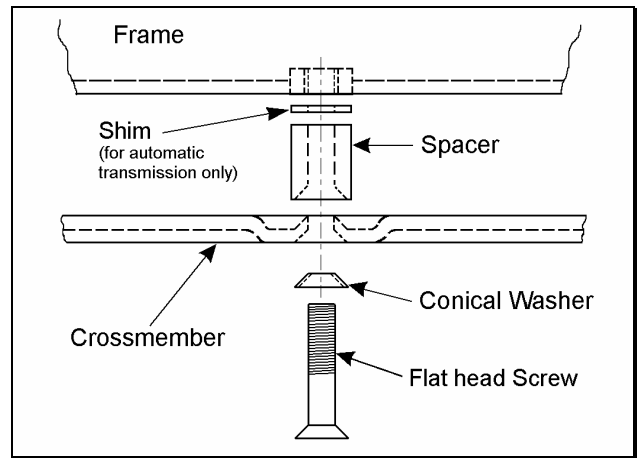

Figure 12a
4. ☐ Place 3 spacers from kit 860161 between the crossmember and the frame with the conical end of the spacer facing down. See figure 12a. For vehicles with an automatic transmission, add 3 shims.
5. ☐ If flat head screws were removed, install a conical washer and apply thread lock to 3 flat head screws from kit 860161. Insert the screws through the crossmember, spacers, and into the frame. See figure 12a.